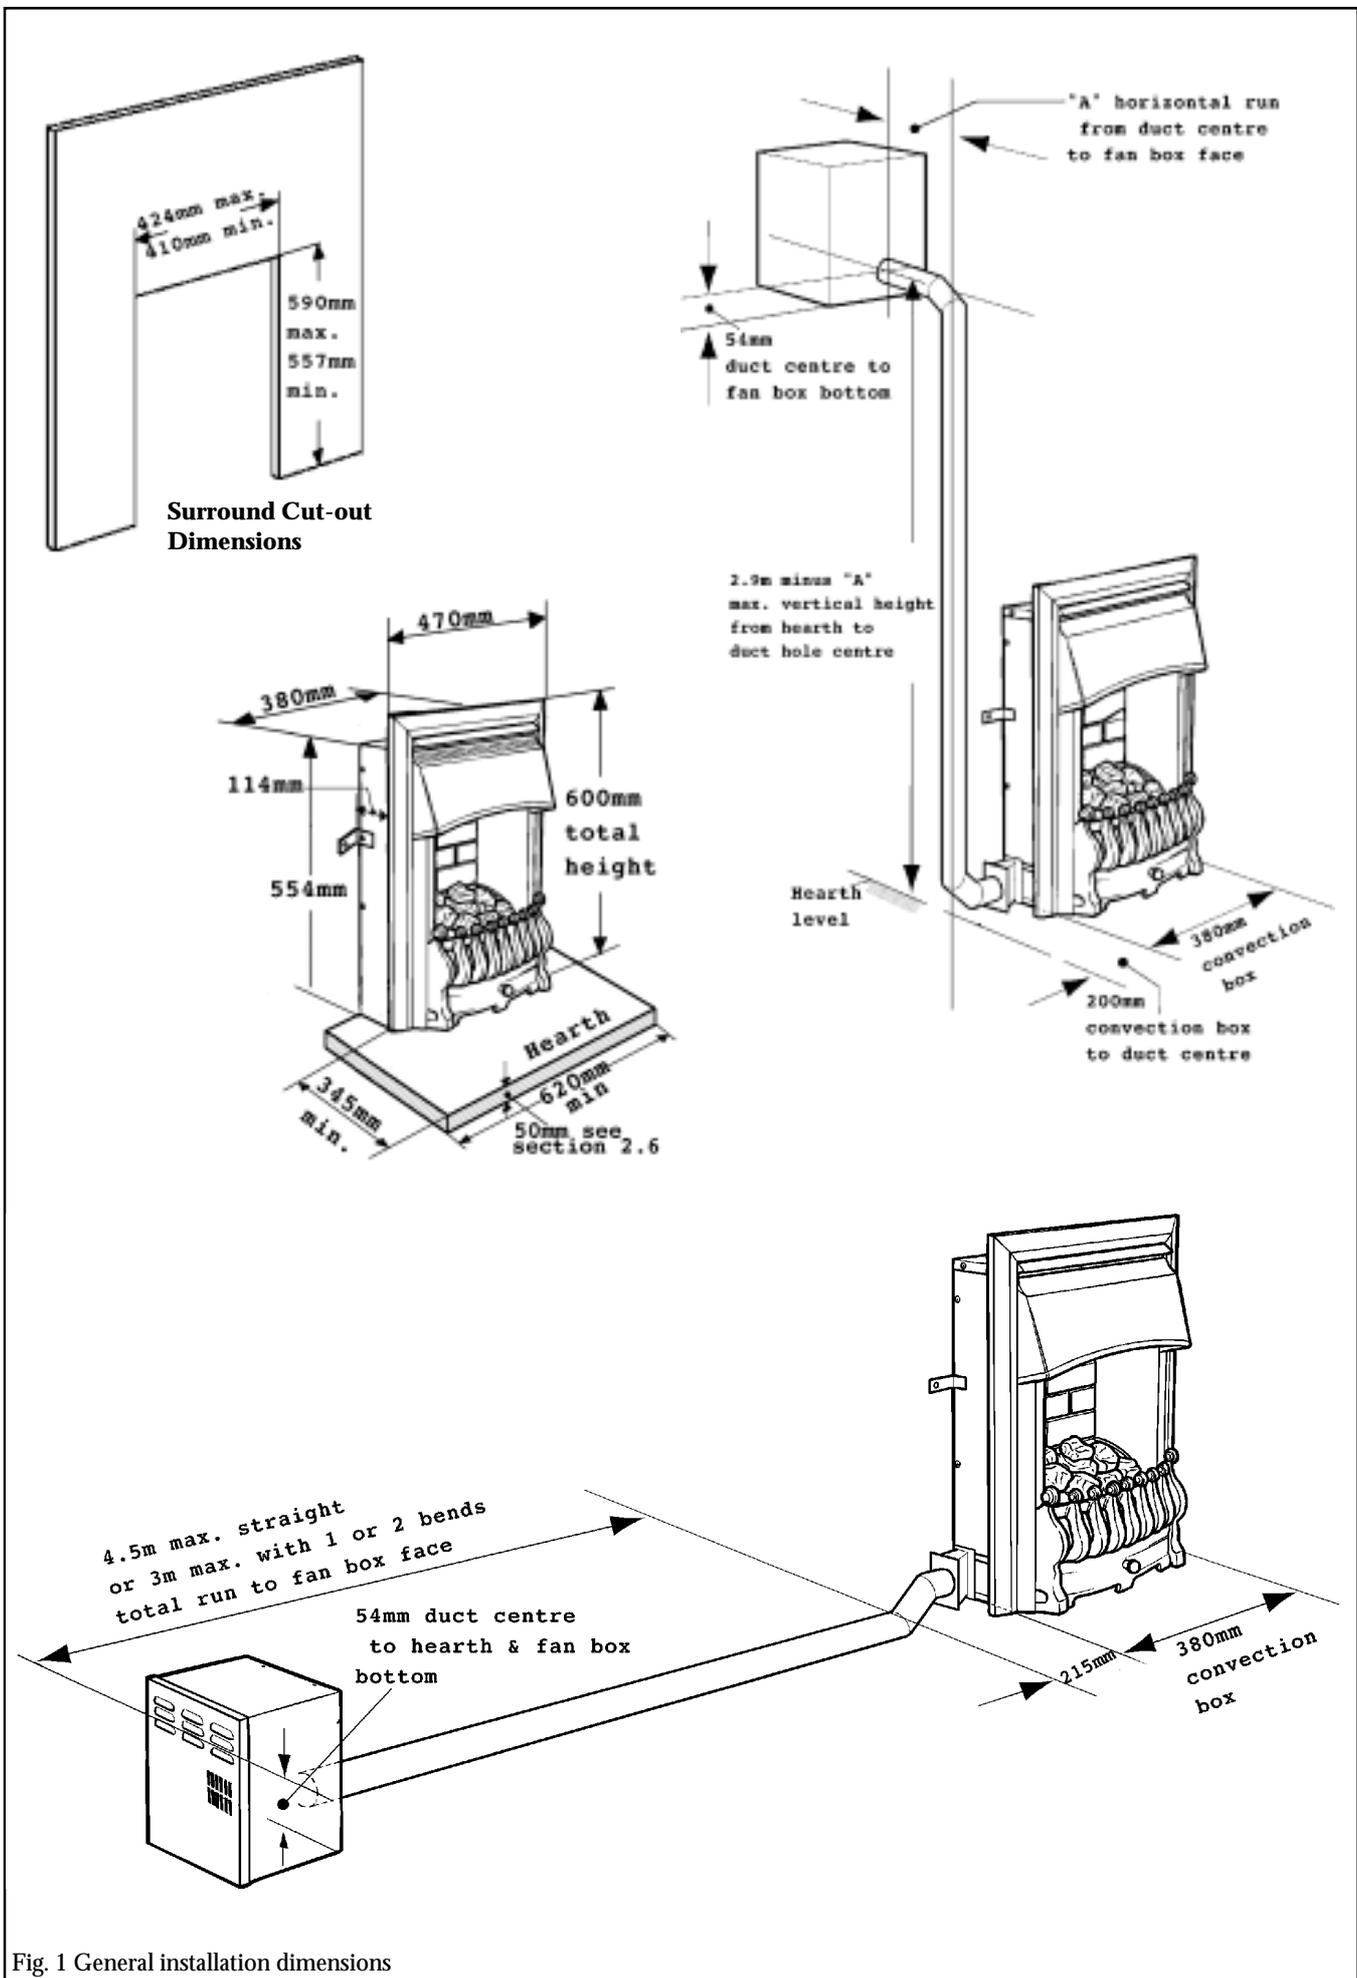

Fig. 1 General installation dimensions
Figure 1 shows the critical installation dimensions
2.6 This appliance must be mounted with a non-combustible hearth (n.b conglomerate marble hearths are considered as non-combustible). The fire box must be mounted on a non-combustible surface. The hearth must project at least 345mm forward of the convection box front and be at least 620mm wide (See figure 1). The hearth material must be at least 12mm thick. The periphery of the hearth (or fender) should be at least 50mm above floor level to discourage the placing of carpets or rugs over it.
2.7 The appliance must not be fitted directly against a combustible wall. If the appliance is to be fitted against a wall with combustible cladding, such materials must be removed from the area covered by the metal outer surround of the appliance (see figure 1). We suggest that the actual surround is used as a template to mark the area for combustible cladding removal.
- The cut-out area in the surround should be between the size limits shown in figure 1.